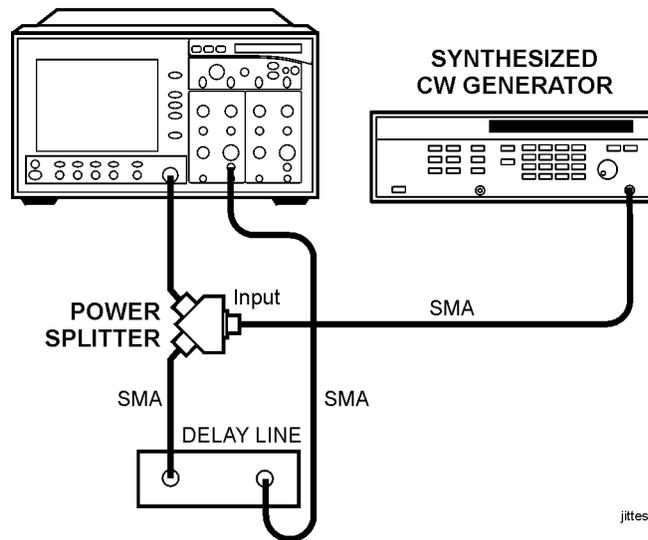

Figure 2-11. Jitter Performance Test Setup
- 2 Connect the equipment as shown in Figure 2-11.